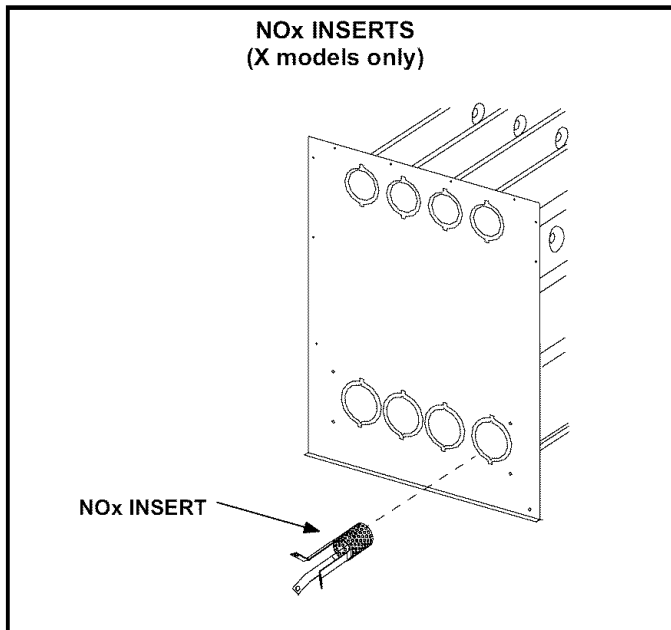

FIGURE 29
- 8 - **NOx units only** - Remove the three screws that attach the NOx insert to the corbel at the entrance to each heat exchanger section. Carefully remove the NOx insert from each section. See figure 29.
- 16- **NOx units only** - Reattach the NOx inserts to the corbels at the entrance to each heat exchanger opening. See figure 29.